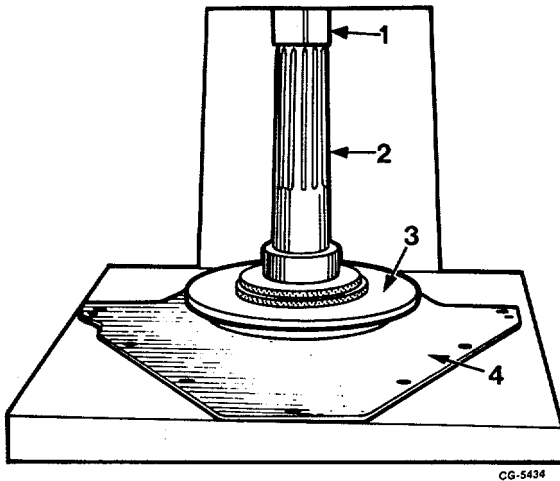

Fig. 142 Pressing Rear Oil Seal into Retaining Plate Using SE-1905 Installer with 5-1/4" O.D. Adapter
9. Press crankshaft rear oil seal into retainer plate using SE-1905 installer and 5-1/4" O.D. adapter, Figure 142. The seal must be installed from the crankcase side of the retainer flush with the seal bore inner surface.